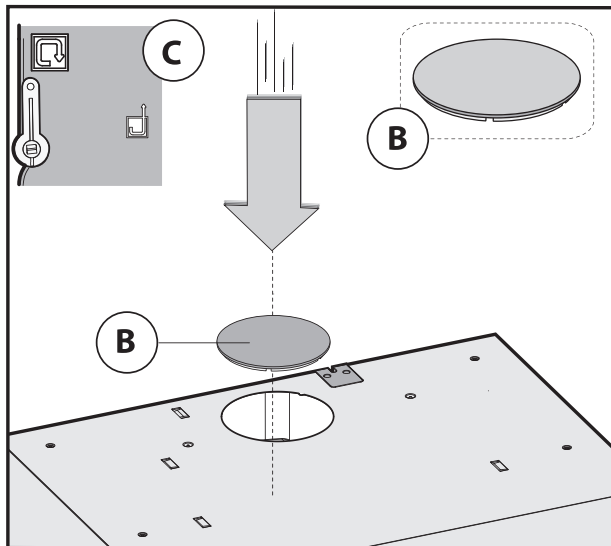
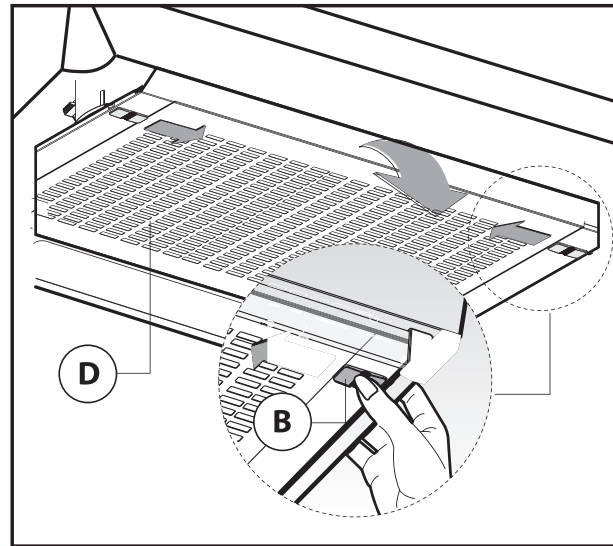
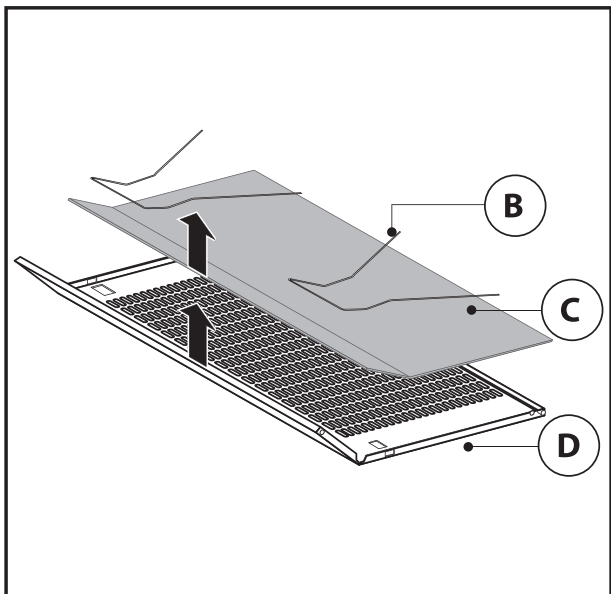

Fig.4
Fig.5
Fig.6
Prior to proceeding with the assembly operations (according to the model that you have purchased), to facilitate handling of the device, remove the grille as indicated in Fig. 5.
- If the hood is a **filter** model, the lever **C** must be positioned as indicated in Fig.4.
To transform an extractor hood version into a filter hood version, please inquire with your retailer about purchasing charcoal filters. The filters should be fitted to the extraction assembly inside the hood, by centring them and rotating them 90 degrees, until they click into place (Fig.7). To do this, remove the grille **D** (Fig.5) Close the air outlet opening with the plug **B**, as indicated in Fig.4
To replace the acrylic or metal panels you need to first remove the grille **D** by pushing the two side buttons **B** inwards as indicated in Fig.5. Remove the two filter clips **B** (Fig. 6) and the acrylic or metal panel **C**. To reassemble the part, simply perform the procedure in reverse.